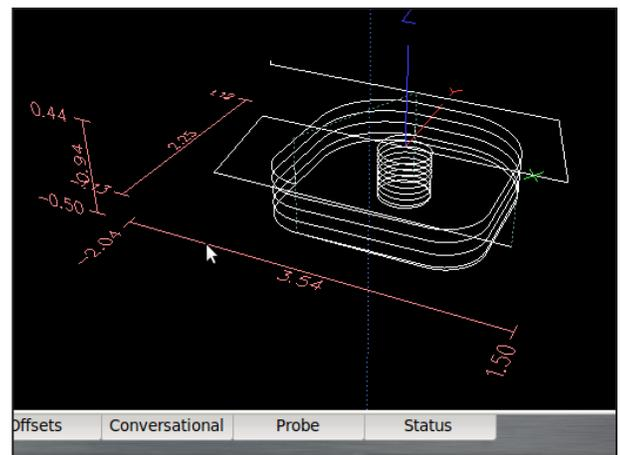

Figure 6.13
**Tool Path Display** – The tool path window displays a graphic representation of the tool path that is executed for the currently loaded G-code file (see **Figure 6.13**). Preview lines are shown in white, the tool path as it is cut is red, and jogging moves are yellow. The boundary box, drawn in dotted blue, represents the ends of travel of the axes. Erase the yellow jogging and red tool path lines at any time by double-clicking the display or clicking the *Reset* button.
Grid lines are visible behind the tool path when the view is top, front, or side (not ortho). By default, these are drawn at 0.5" intervals (5 mm intervals when in G21 mode). To change the resolution of the grid lines, right click anywhere in the tool path display to select the desired grid spacing. Notice that when a program is loaded, the program extents (furthest points to which the tool will travel while executing the G-code) are displayed to the left and bottom of the tool path (see **Figure 6.13**).